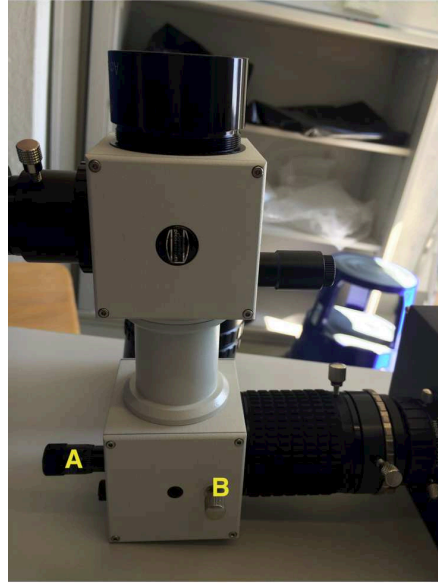

Figure 40: Changing the grating position to change the spectral range:
- change spectral range by using the grating μm screw (see Fig. 40 and comments therein)